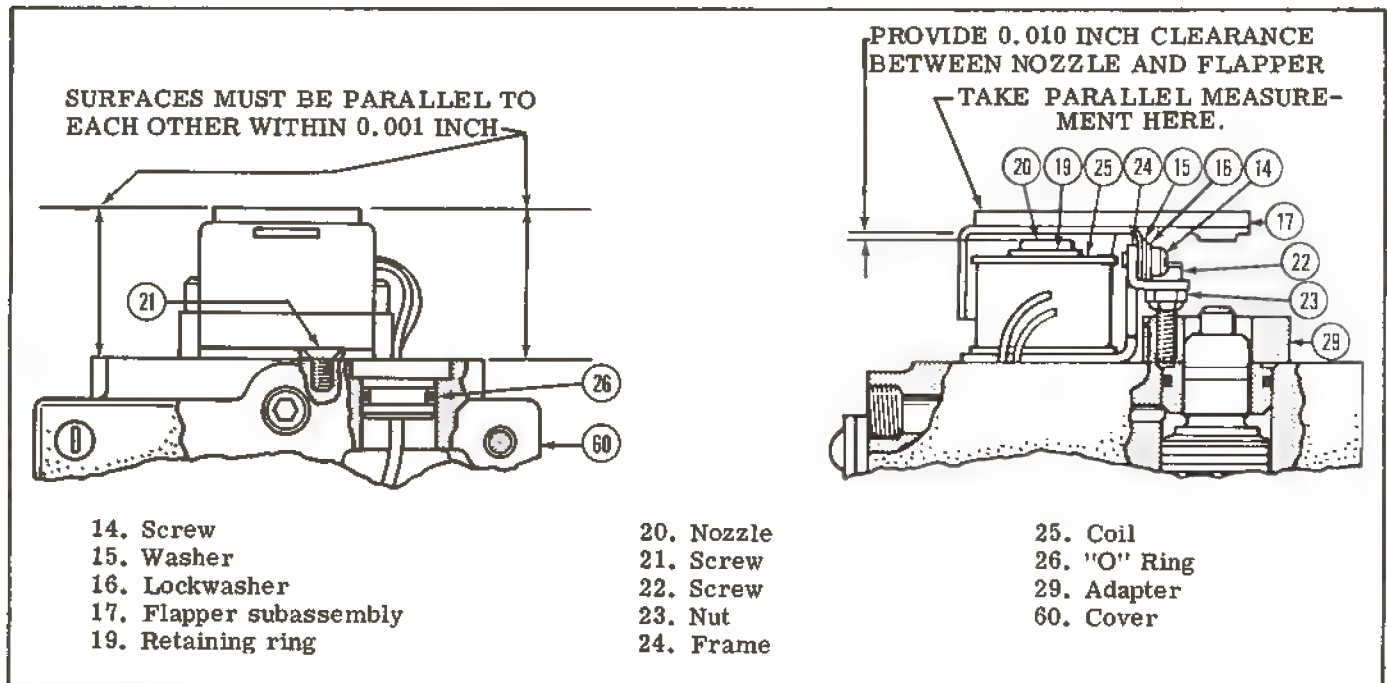

FIGURE 2. PRELIMINARY FLAPPER TO NOZZLE ADJUSTMENT
5. Install "O" ring (35) and glyd ring (34) on plunger (33). Install "O" ring (32) on guide (31). Assemble guide over plunger (33) chamfered edge first.
6. Insert plunger (33) and guide (31) into bore as an assembly.
7. Install adapter S/A (29) to cover (60). Use lockwasher (28) and screw (27). Orient adapter (29) so check valve opening is not covered. Hand tighten both screws.
J. Assemble pilot stage parts (26) thru (14) refer to Figures 2 and 3 as required.
1. Assemble screw (22) to frame (24) and attach nut (23). Nut is self-locking type. Tighten nut until all end play is removed, but screw and nut together must be free to turn.
2. Thread screw (14) thru washers (15) and (16) approximately two (2) turns into frame (24).
5. Insert nozzle (20) thru frame (24) and thread it into cover (60). Use a 5/16 open end wrench to tighten the nozzle securely.
6. Tighten screws (21) to secure frame against cover (60).
7. Position adapter S/A (29) to prevent plunger (33) bind, and tighten screws (23) securely.
8. With frame (24) and adapter S/A (29) tightened to cover, adjust screw (22) until the frame, onto which flapper (17) mounts, is square to cover surface.
9. Assemble coil (25) over nozzle (20) with coil wires toward cover (60). Use retaining ring (19) to secure coil (25).
10. Position flapper subassembly (17) over nozzle and coil onto frame (24). See Figure 2. Tighten screws (14) to a snug condition.
3. Assemble "O" ring (26) on bushing of coil (25). Thread leads of coil thru access hole in cover (60). Press the bushing with the "O" ring into the counter bored hole. Refer to Figures 2 and 3 for proper orientation of bushing. Wires must be positioned as shown to prevent interference with cover.
4. Thread screw (22) into adapter (29) approximately seven (7) to seven and one-half (7-1/2) turns. This will cause the frame (24) and cover (60) to interface. Make certain frame is flat against the cover. Loosely secure frame (24) to cover (60). Use screws (21).
a. Provide sufficient clearance between nozzle and flapper for insertion of a 0.010 inch shim between these two parts. Using a depth micrometer, measure the distance between the top of the flapper and the machined surface of the cover as shown in Figure 2. The top of flapper (17) and the machined surface of cover (60) must be adjusted parallel within 0.001 inch.